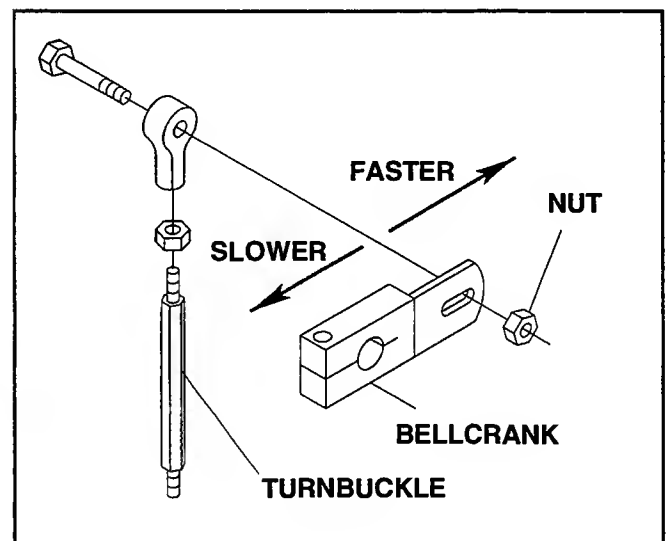

Figure 11
3. Loosen nut securing turnbuckle to bellcrank. (See Figure 11)